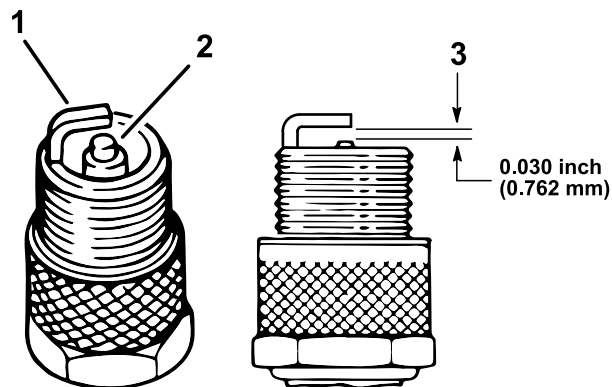

Figure 37
4. Check the condition of the side electrode, center electrode, and center electrode insulator to ensure that there is no damage (Figure 37).
5. Set the air gap between the center and side of the electrodes at 0.762 mm (0.030 inch) as shown in Figure 37.